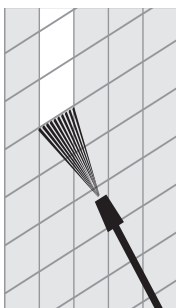

Fig. 9
- > Turn the spray gun (2) to orientate the fan jet in a better way (Fig. 9, 10).